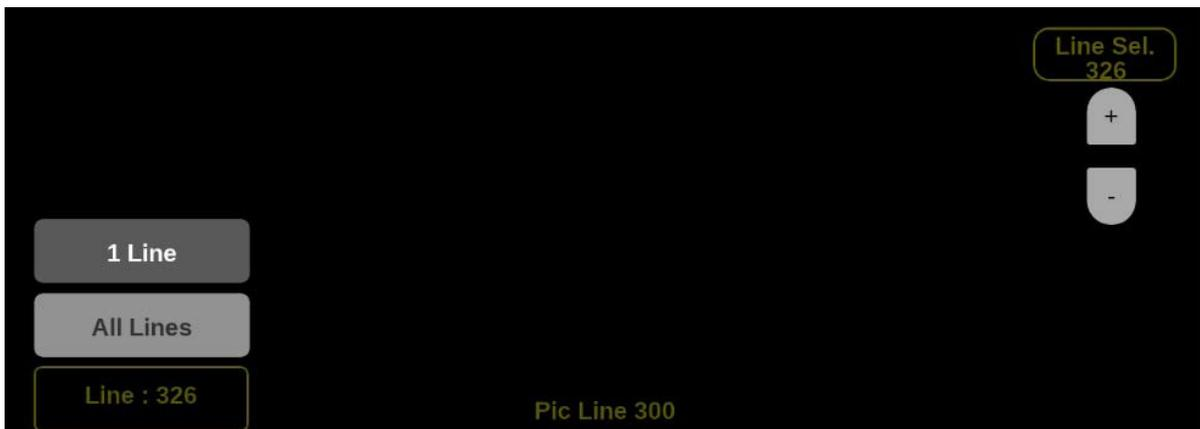

Figure 218: CIE on-screen tools – Line Select
If 1 Line is selected, the display only shows results for the selected line in the picture. The line can be selected using the on-screen tools. (See Line Select function.) Or the line can be selected directly on the Picture. (See Figure 218.)
1. Select the **Lines** button at the bottom of the application. (See Figure 218.)